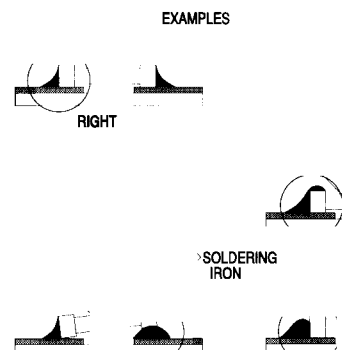

Fig. 3
- Turn the unit upside down (Fig.3).
- Remove the earthing screw (M), (Fig. 3).
- Release snap hook (2) by pushing the snap hook downwards and lift up the frame.
For carrying out electrical adjustments, or to evaluate the picture quality, the earthing screw (M) (Fig. 3) must be present (ground connection for the head amplifier).
- Undo earthing screw of drive M (Fig. 3).
- The quantity of solder must be proportional with the size of the solder land. If the quantity is too great, the SMD might crack or the solder lands might be torn loose from the printed board (see Fig. 3).